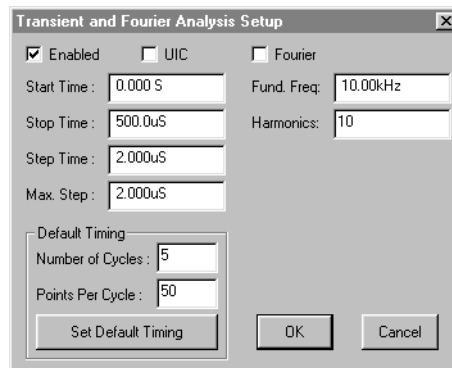
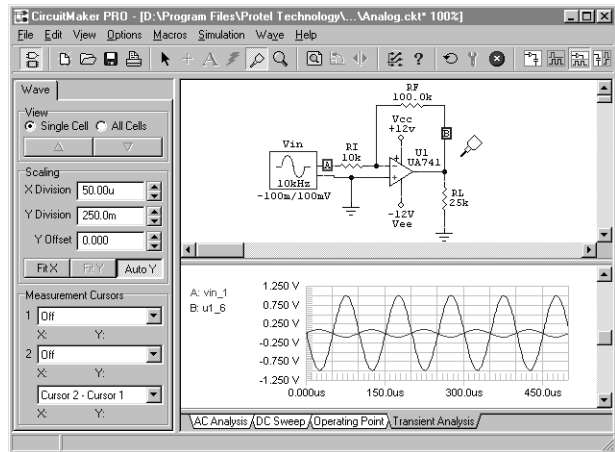

Figure 6.17. Use this dialog box to set up Transient and Fourier Analyses.
Figure 6.18. The circuit *Analog.ckt*, and the Transient Analysis window.
- 2 Click the **Transient/Fourier** button to display the dialog box pictured in Figure 6.17.
The waveform in Figure 6.18 was generated by simulating the *Analog.ckt* circuit using the values shown in Figure 6.17. This analysis shows the voltage at the test points during the time frame specified in the **Start** and **Stop** fields. Notice that the x axis shows the time in seconds, and the y axis is voltage. The larger waveform represents the voltage at the circuit output, while the smaller waveform is voltage at the source (signal generator) or input. See *Using the Analysis Window* earlier in this chapter for more information about manipulating the waveforms.